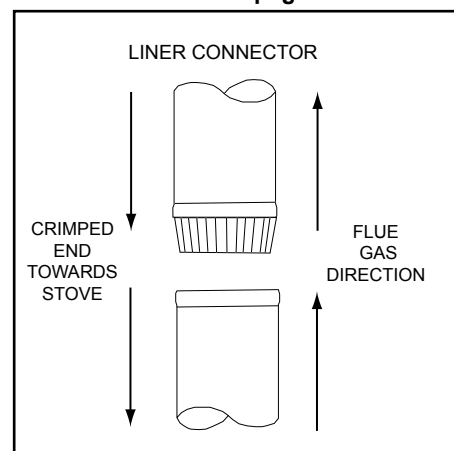

Figure 5.2
**BEST:** A complete relining of the chimney system with a 6 inch (152mm) diameter listed, stainless liner. Required for factory-built fireplace installations in Canada, recommended in USA. The sections must be attached to the insert and to each other with the crimped (male) end pointing toward the insert. See **Figure 5.2**. All joints, including the connection at the flue collar, should be secured with three sheet metal screws. Make sure to follow the minimum clearances to combustibles as set out on **page 4** of the manual.